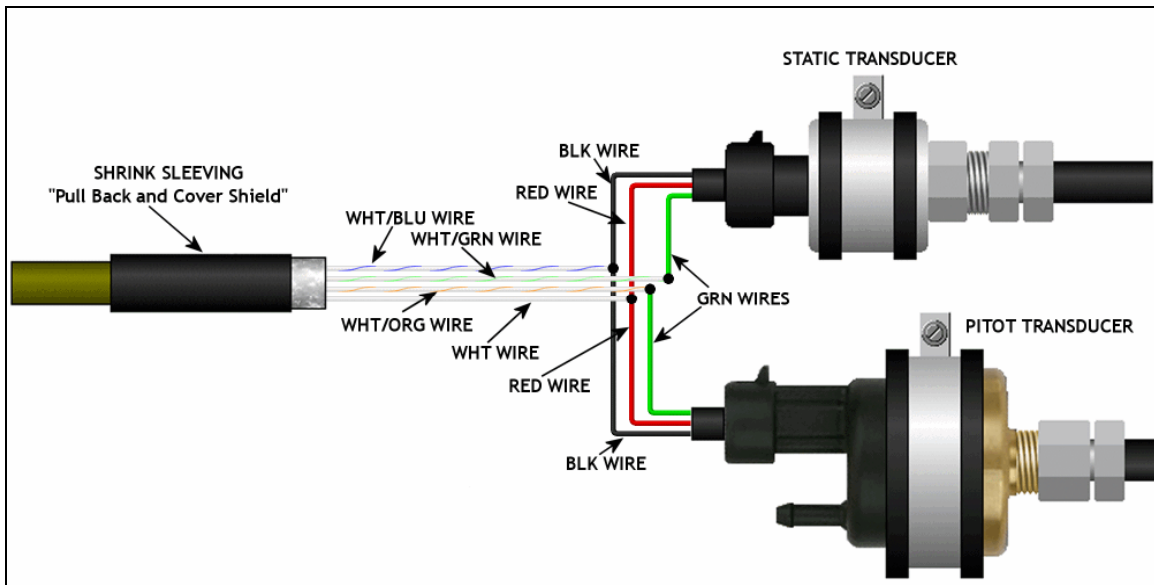

Figure C- 7: Pitot/Static Wiring
- 010 Verify that the proper connectors are in place. Refer to Figure C- 7.